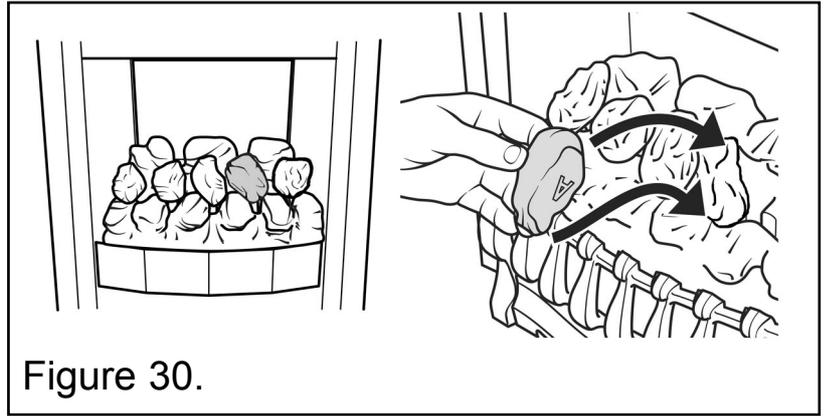

Figure 30.
7. Place the remaining type “A” coal between the front and rear base coals. The letter “A” should be upside down with its rear face between the right and centre coals of the rear base coal. Angle the coal so that the gap between it and the type “B” coal to its right is appreciably larger than the gap between it and the type “A” coal to its left but do not have it touching the type “A” coal. This will give the best flame effect. See figure 30